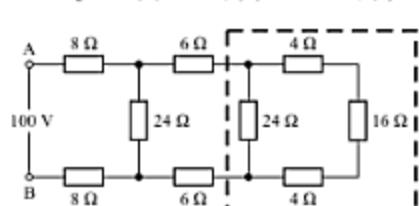

Fig. 2.46
20. In the circuit shown in Fig. 2.46, determine (a) the equivalent resistance between points A and B, (b) the total current, and (c) the power delivered to the 16-Ω resistance. [Ans. (a) 28 Ω; (b) 3.5714 A; (c) 12.75 W]